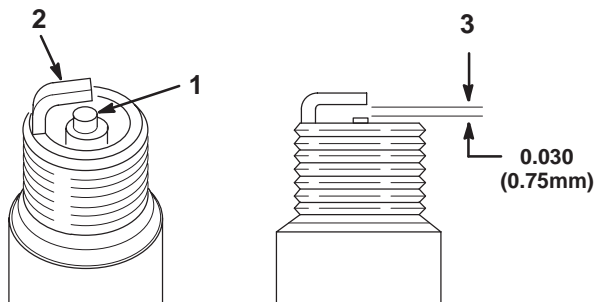

Figure 35
1. Clean the electrodes by scraping or with a wire brush to remove carbon deposits and wetness (Fig. 35).
2. Inspect spark plug (Fig. 35).
3. Check the gap between the center and side electrodes (Fig. 35). Bend the side electrode (Fig. 35) if the gap is not correct.